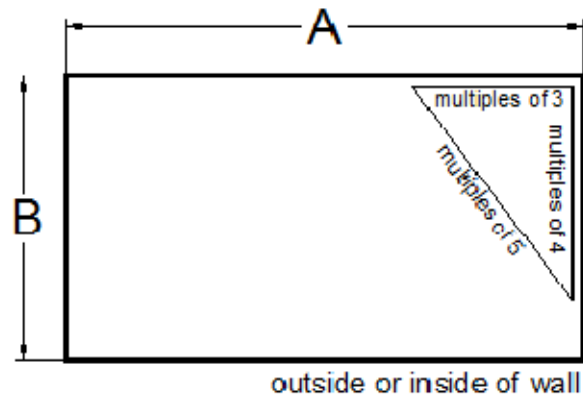

Figure 6: Sketch to illustrate the 3, 4, 5 method of ensuring your wall is square.
- 3) The 3-4-5 method is a quick way to check for square within the multiples shown in Figure 6 below. It is not recommended for a full building layout since it is not as accurate.